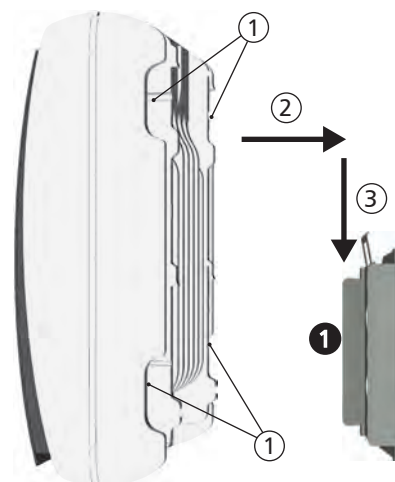

Figure 41
1. Grasp the inverter by the recesses ①, position it ① in the middle of the mounting plate ② and press lightly (Figure 41).
2. Lower the inverter into place ③ until the retaining plate on the mounting plate clicks audibly into place. The hooks on the rear side of the inverter must slide over matching protrusions on the mounting plate.